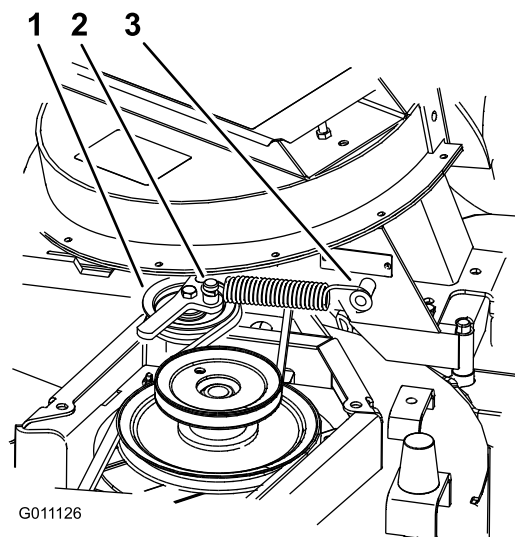

Figure 18
4. Install the spring as shown in Figure 18.